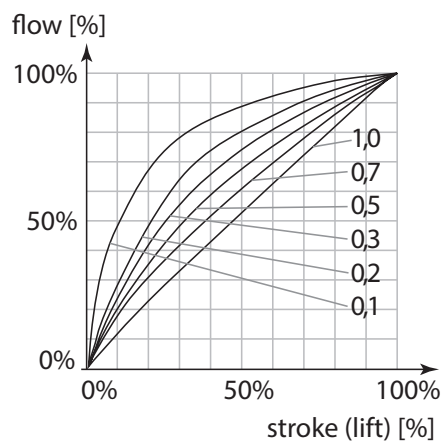

Fig 3
2. Linear control valve characteristic (Fig 3)